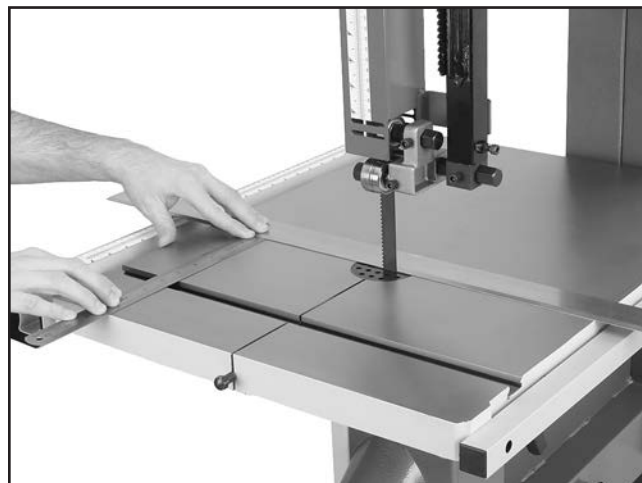

Figure 39. Example of measuring for miter slot to be parallel with blade.
5. Use a fine ruler to accurately gauge the distance between the straightedge and the miter slot. The distance you measure should be the same at both the front and the back of the table (see **Figure 39**).